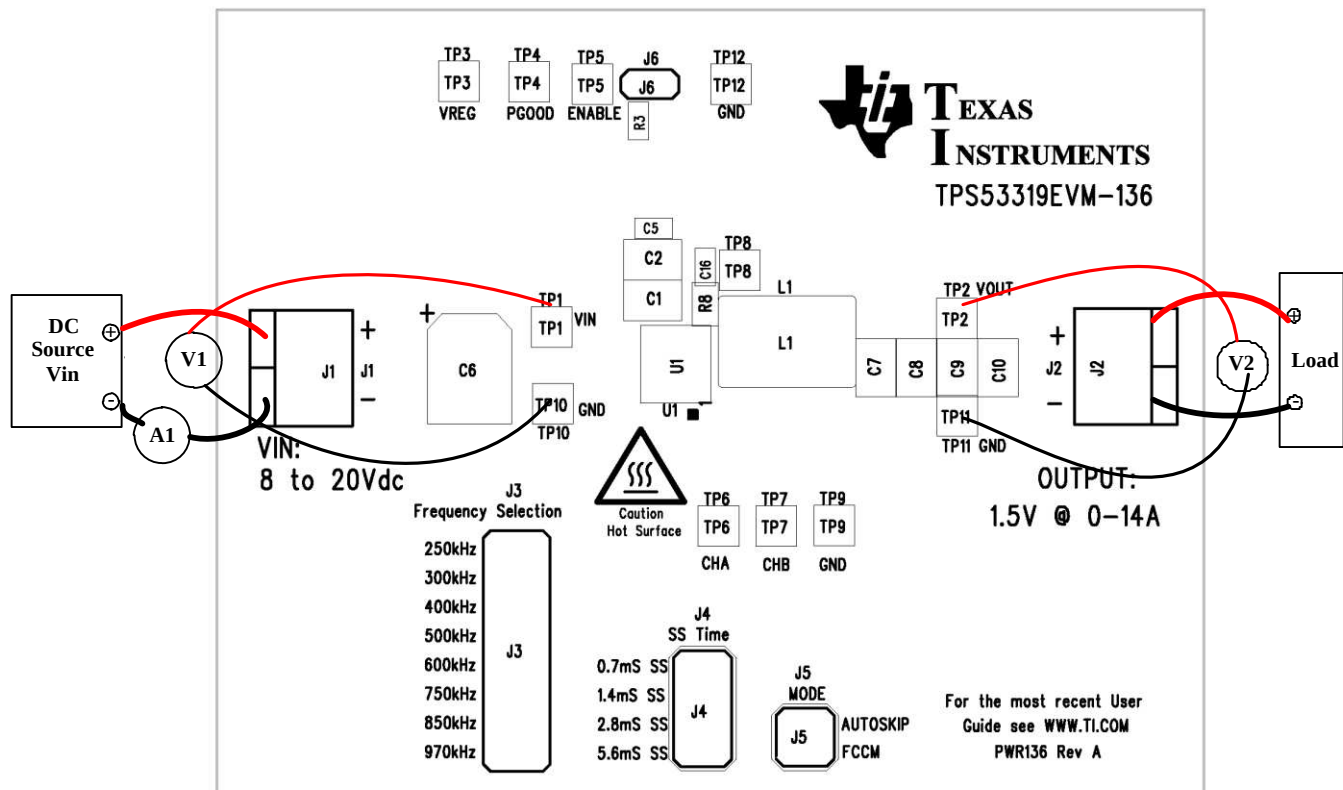

Figure 3. TPS53319EVM-136 Recommended Test Set Up
The input voltage source V_{in} should be a 0-20V variable DC source capable of supplying 10A_{dc}. Connect V_{in} to J1 as shown in Figure 3.
Figure 3 is the recommended test set up to evaluate the TPS53319EVM-136. Working at an ESD workstation, make sure that any wrist straps, bootstraps or mats are connected referencing the user to earth ground before power is applied to the EVM.
1. Prior to connecting the DC input source Vin, it is advisable to limit the source current from Vin to 10A maximum. Make sure Vin is initially set to 0V and connected as shown in Figure 3.
1. Set up EVM as described in Section 4 and Figure 3.